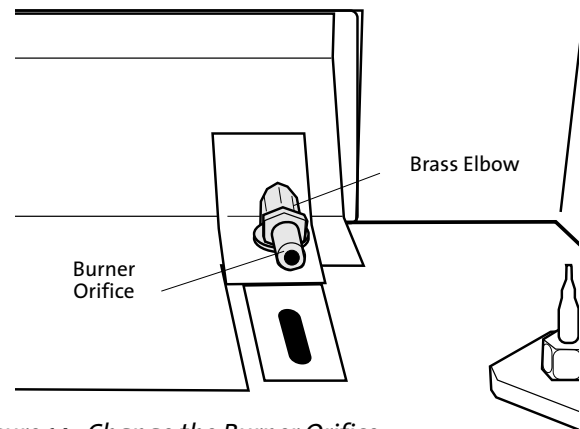

Figure 14. Change the Burner Orifice.
8. Change the Burner Orifice. Using a 1/8" open ended wrench or deep-well socket, remove the burner orifice from its brass elbow housing and replace with the appropriate orifice supplied in the kit. See fig. 14.
10. Replace the Burner Plate. Engage the burner tube with the Air Shutter assembly as in fig. 14. Be sure the burner is securely engaged with the two support brackets at the front of the firebox and push the plate back toward the rear of the firebox.